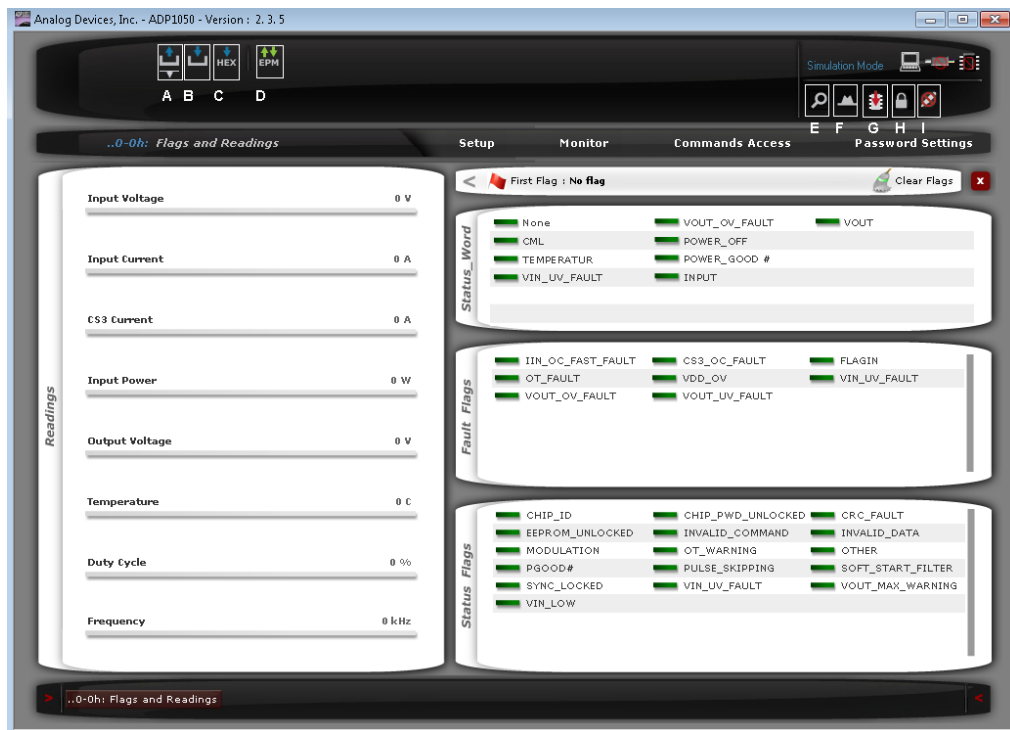
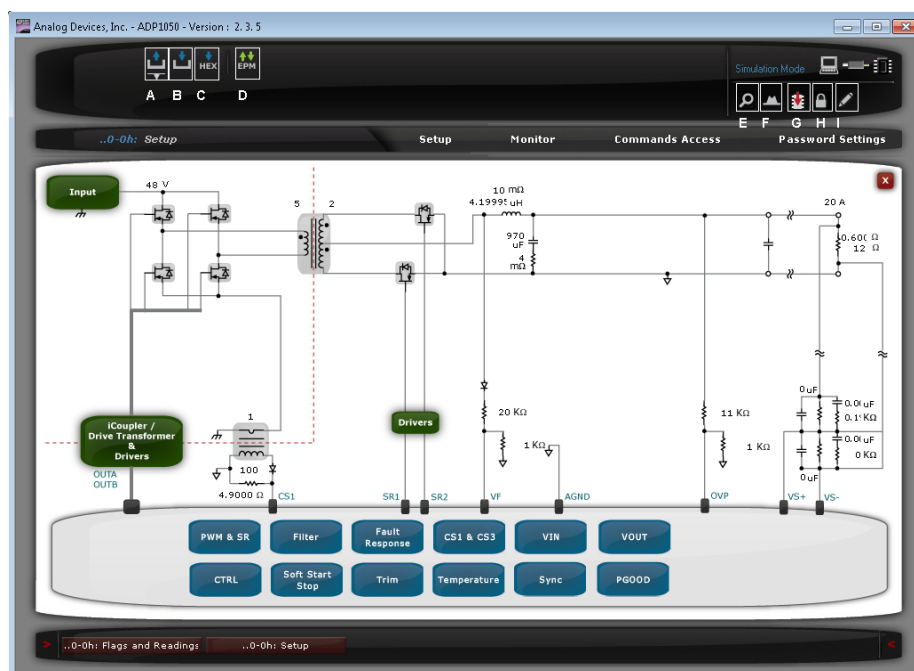

Figure 10. Monitor Window in the GUI
Figure 11. Main Setup Window of the GUI (See Table 6)
7. Click **Finish** to proceed to the **Monitor** window (see Figure 10).
8. Click **Unlock the chip password** (Button I in Figure 10) and enter the chip password in the pop-up window that appears. The default chip password is 0xFFFF. Press ENTER after typing in the password to proceed to the **Setup** tab of the main window, as shown in Figure 11.
If the user wants to load the default command and board settings file from a local folder, click **Load Command and Board settings from a .50s file to the ADP1050 device** (Button A in Figure 11) and select the **ADP1050-240-EVALZ-**
After completing the programming of the ADP1050, click **Program command and board settings into the EEPROM** (Button G in Figure 11) to program the command and board settings into the EEPROM if the user wants to save the settings in the device. Moreover, the user can use the **Save command and board settings from the ADP1050 device to a .50s file** button (Button B in Figure 11) to generate a .50s file for the command and board settings.
Figure 11 shows the main window. There are four tabs in the main window: